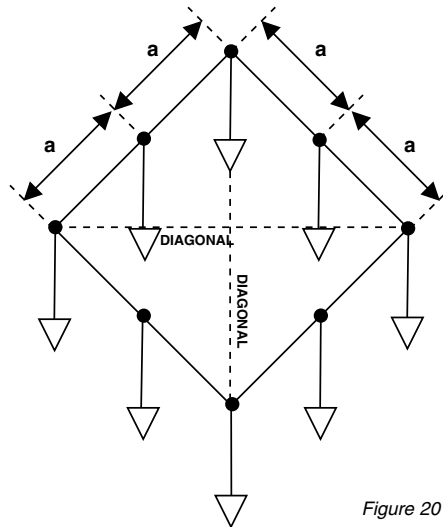

Figure 20
**A** single driven grounding electrode is an economical and simple means of making a good ground system. But sometimes a single rod will not provide sufficient low resistance, and several grounding electrodes will be driven and connected in parallel by a cable. Very often when two, three or four grounding electrodes are being used, they are driven in a straight line; when four or more are being used, a hollow square configuration is used and the grounding electrodes are still connected in parallel and are equally spaced. (Figure 20)